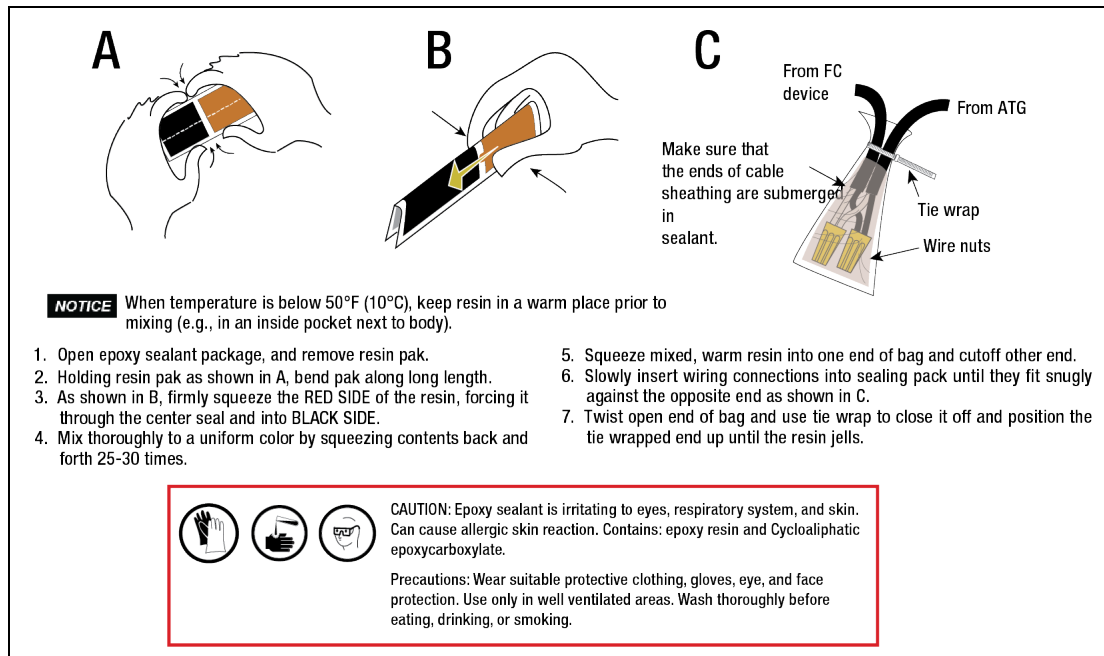

Figure 22. Epoxy Sealing Mag Probe and Pressure Sensor Field Connections
5. Seal each cable's connections in an epoxy sealant pack following the instructions in Figure 22. Place the two sealed wiring packs into the I.S. junction box. Replace and tighten the junction box cover.
6. Seal each cable's connections in an epoxy sealant pack following the instructions in Figure 22. Place the two sealed wiring packs into the I.S. junction box. Replace and tighten the junction box cover.